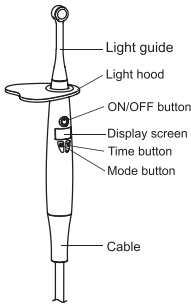

Figure 1
- c) Install the light hood as showed in figure 1.